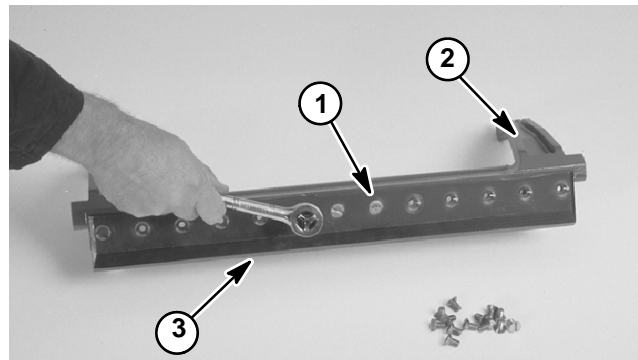

Figure 15
2. Remove screws from bedbar using a socket wrench and bedknife screw tool (see Special Tools). Discard screws. Remove bedknife from the bedbar (Fig. 15).